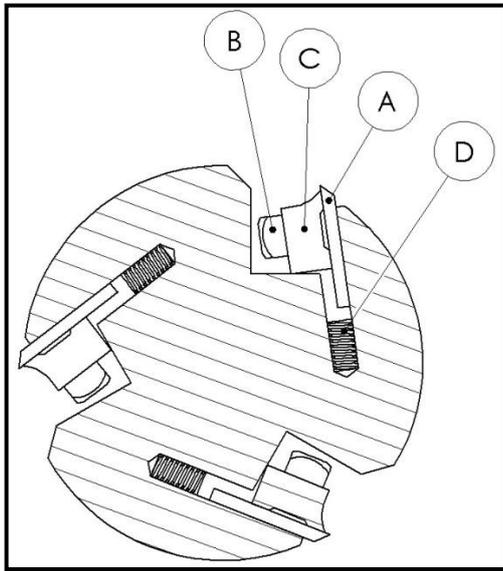

Fig. 5
After a period of use, the dull knives should be replaced or reground. To remove the knife (A), release the six (6) gib screws (B) and gib (C) and springs (D) from the holes of cutterhead, Fig. 5. To install the knives, insert the springs and put the knife and gib in place. Before tightening the knives into cutterhead, they must first be carefully reset. Refer to "Setting Knives & Outfeed Table".